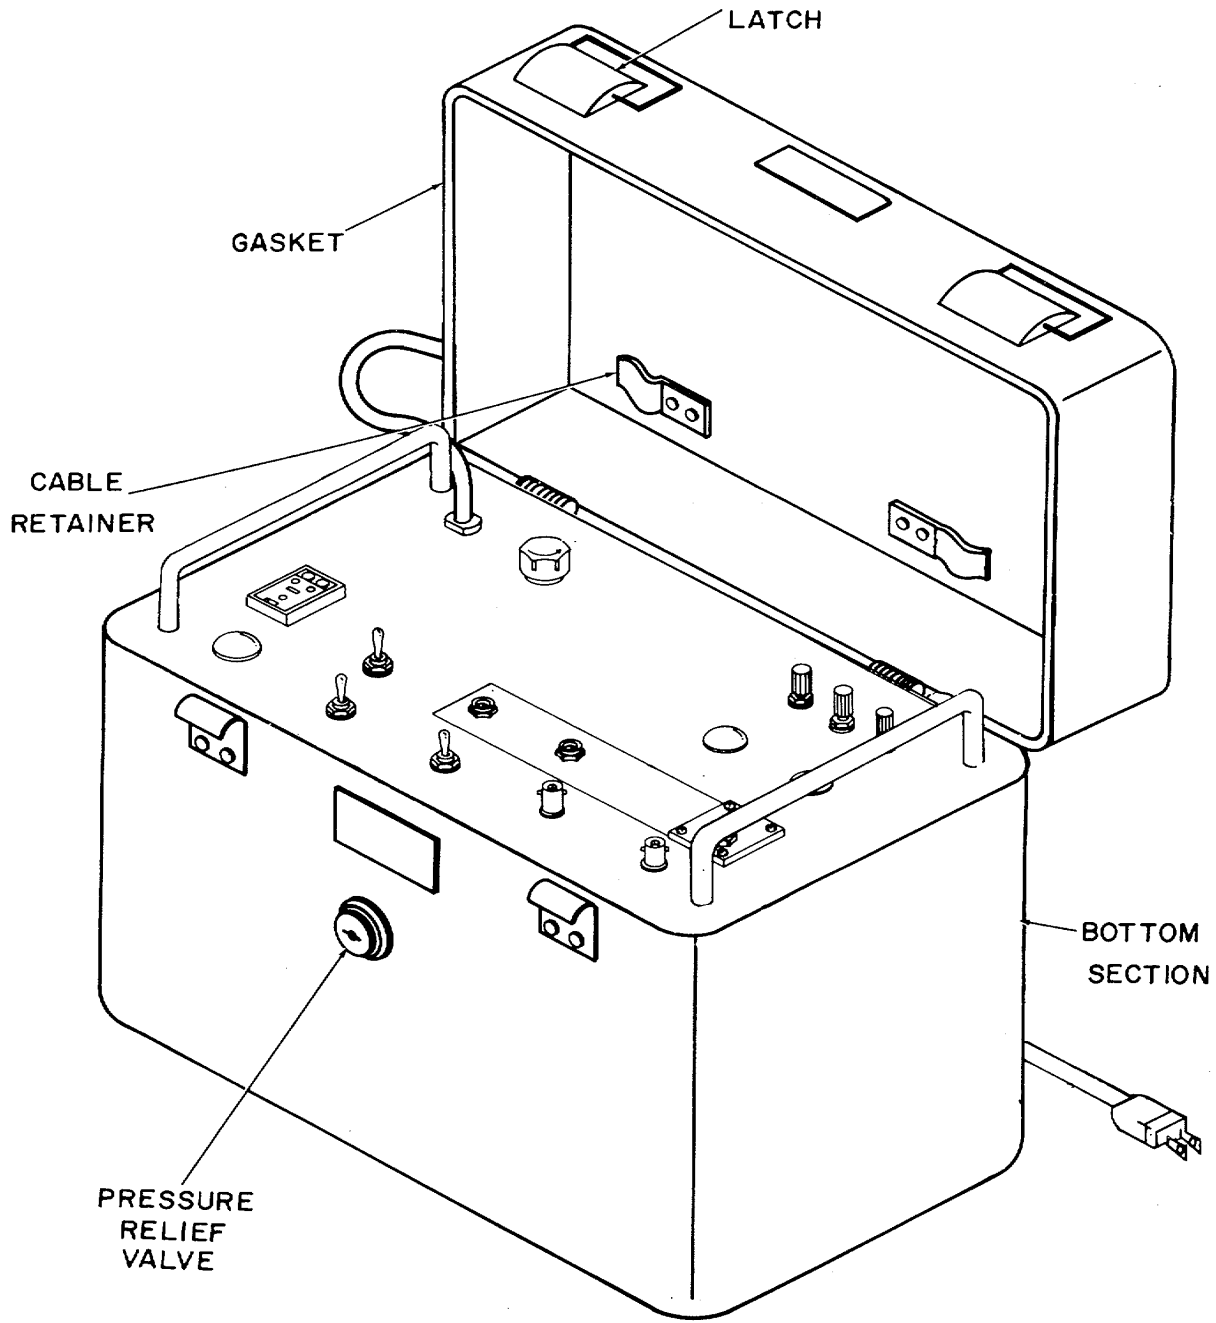

Figure 1-1. Test Set, Crystal Module TS-3630/GRA-114.
This manual describes Test Set, Crystal Module TS-3630/GRA-114 (fig. 1-1), hereafter referred to as the TS-3630, and covers the operation and operator and organizational maintenance of the equipment. It includes instructions for operation under usual and unusual conditions, cleaning and inspection of the equipment, and replacement of parts available to the operator and organizational level of maintenance.
a. The TS-3630 (fig. 1-1) is contained in a portable case. The case consists of top and bottom sections attached together by two hinges that permit separation of the two sections. The top section is equipped with a handle. The top section is secured to the bottom section by two latches and is made watertight with a rubber gasket, mounted in a groove in the lower rim of the cover. A pressure